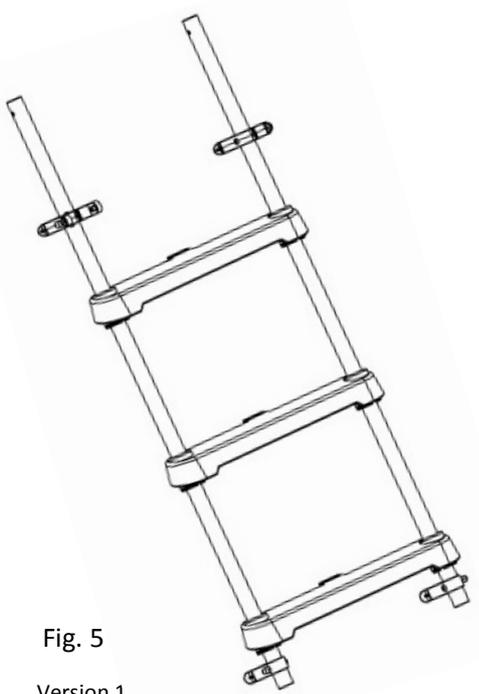

Fig. 5
6. Slide a Ladder Step (42) down over both Straight Ladder Legs. Slide the step down until the Ladder Step Clips (44) insert into the underside of the stop and the ridges inside of the clips lock into place. The Ladder Step Clips should stay in the indented section of the Ladder Leg as you press the steps down over them. The Ladder Step Clips should insert flush against the bottom of the step as shown in the Figure 5.
8. The Machine Screws (50) should be installed from the inside of the Straight Ladder Leg (52). Thread the Cap Nut (48) on until the Swivel Ladder Clamp tightens up against the Straight Ladder Leg. (See Fig. 5)